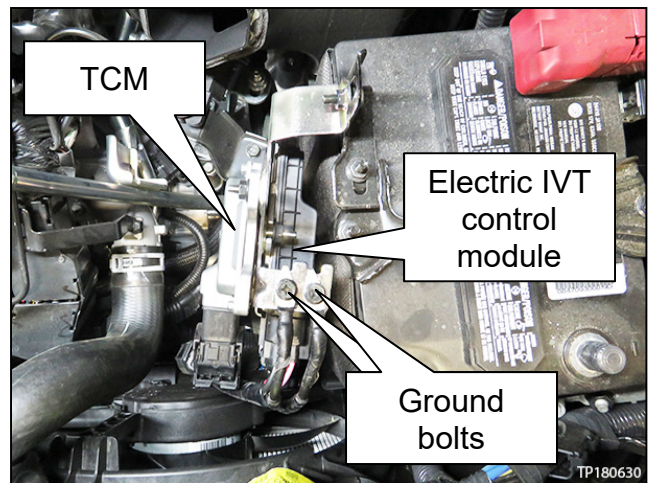

Figure 3
7. Remove the two 10 mm ground bolts shown in Figure 3.